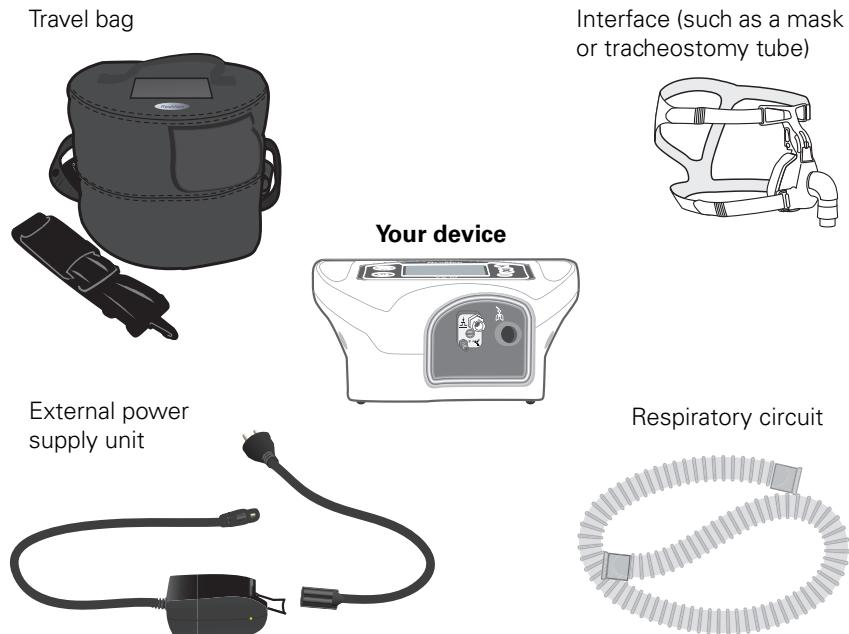

Figure 1: Components available from your HME provider
1. Connect one end of the corrugated tube firmly to the air outlet, as shown in the next figure 1 :